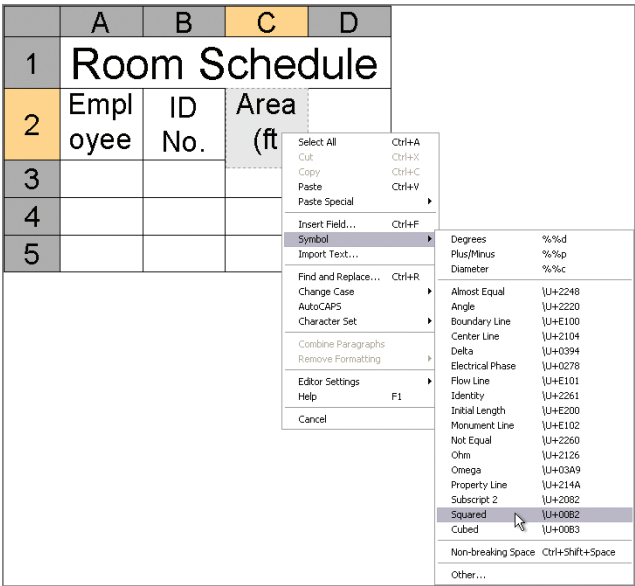

FIGURE 15.20 Accessing the symbol for squared
13. Right-click to open the context menu. Select Symbol > Squared as shown in Figure 15.20. Type) and press Tab. Now the column header indicates an area in square feet (or square meters). Click outside the table on the layout to deactivate it.